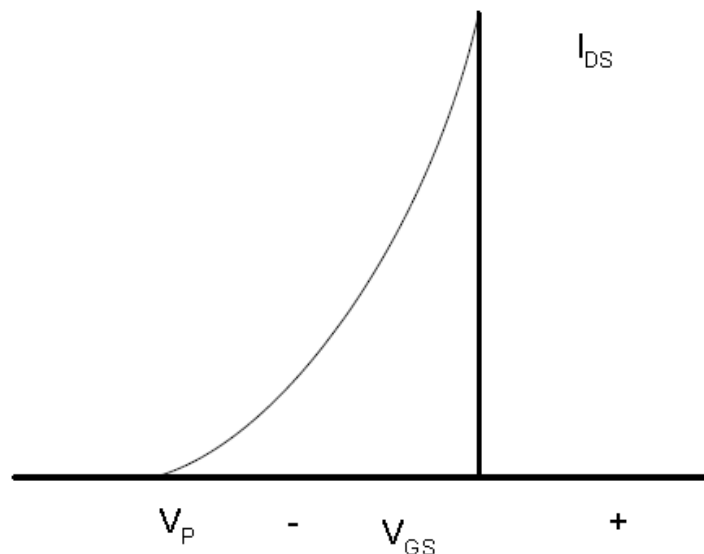

Figure 10.4: JFET Transfer Characteristic
9. Plot  $I_{DS}$  in the saturation region as a function of  $V_{GS}$  for  $V_{DS} = V_{DS}(SAT)$ . This characteristic is the transfer characteristic, if  $g_{DS} = 0$ , and should be similar to Figure 10.4. It is possible to determine  $g_m$  directly from the transfer characteristic as the slope of the transfer characteristic. Notice that  $g_m = g_m(V_{GS})$ .